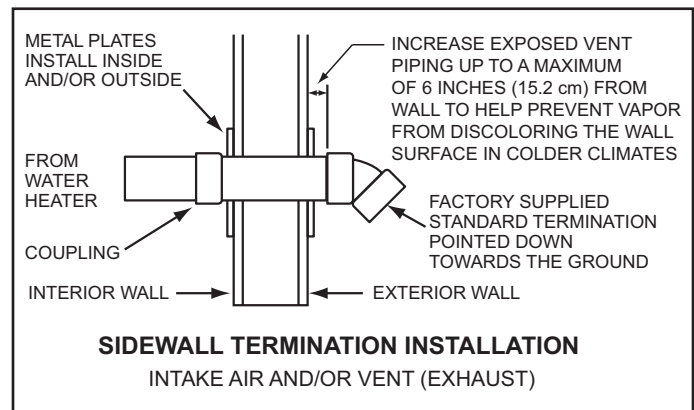

Figure 26
19. Cut a length(s) of pipe being installed 3.5 inches (8.9 cm) to 9.5 inches (24.1 cm) longer than the wall thickness at the opening. See Figure 26.
22. Working from outside, slide the pipe and termination(s) assembled in the above steps through the wall. Ensure the termination(s) is pointed down towards the ground. See Figure 26.
26. Install a coupling to the end of the pipe(s) inside the building. Before the silicone caulking has time to completely set go outside the building and ensure the termination(s) is still pointing down towards the ground. See Figure 26.